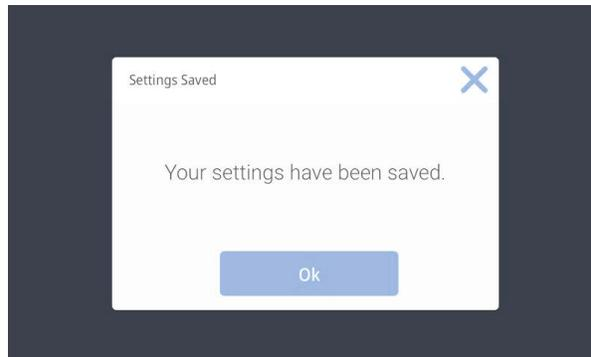

Figure 4-22. UV Reset Saved Pop-up Screen
- Tap “Yes, Update” button to save your setting, you can also tap “Cancel” button to cancel your setting. If you tapped the “Yes, Update” button, a pop-up screen shown in Figure 4-22